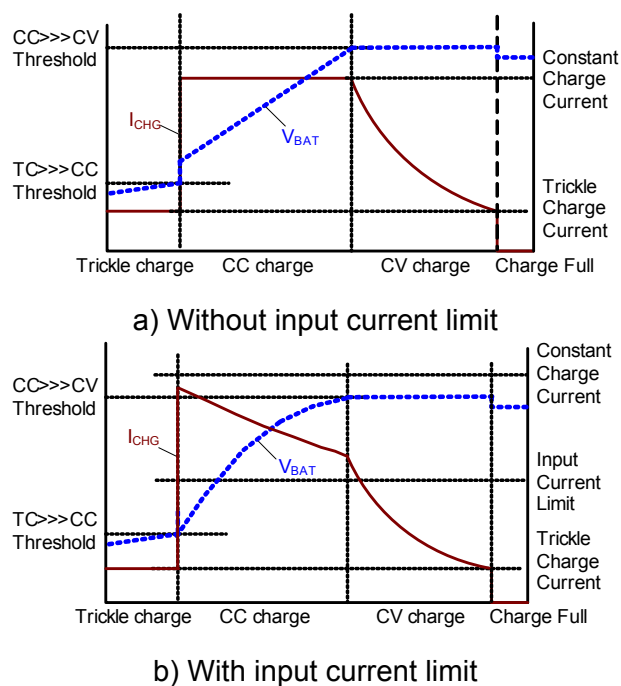

Figure 11: Typical Battery Charging Profile
In charge mode, the MP2633A has four control loops to regulate the input current, charge current, charge voltage, and device junction temperature. It charges the battery in three phases: trickle current (TC), constant current (CC), and constant voltage (CV). While charging, all four loops are active but only one determines the IC behavior. Figure 11(a) shows a typical battery charge profile. The charger stays in TC charge mode until the battery voltage reaches a TC-to-CC threshold. Otherwise the charger enters CC charge mode. When the battery voltage rises to the CV-mode threshold, the charger operates in constant voltage mode. Figure 11(b) shows a typical charge profile when the input-current-limit loop dominates during the CC charge mode, and in this case the charge current exceeds the input current, resulting in faster charging than a traditional linear solution that is well-suited for USB applications.